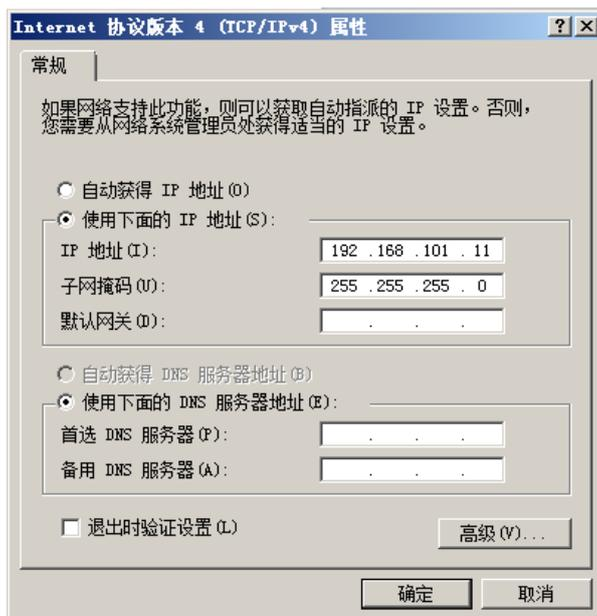

Figure 66
7. Click 'confirm' button to complete the Network adapter settings, according to the IP address shown in figure 66;